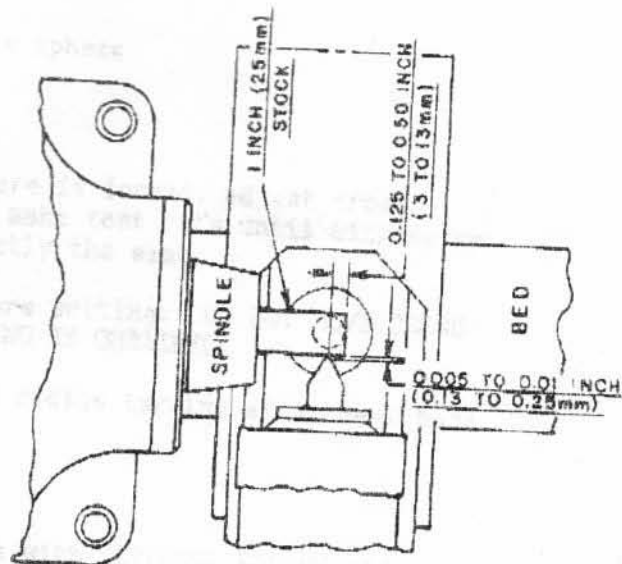

Figure 4 - Radius Turning Attachment Alignment
9. Refer to Figure 4 and slide radius turning attachment along bed (toward spindle) until point of cutting tool is 0.125 to 0.500 inch (3 to 13 mm) beyond face of part.